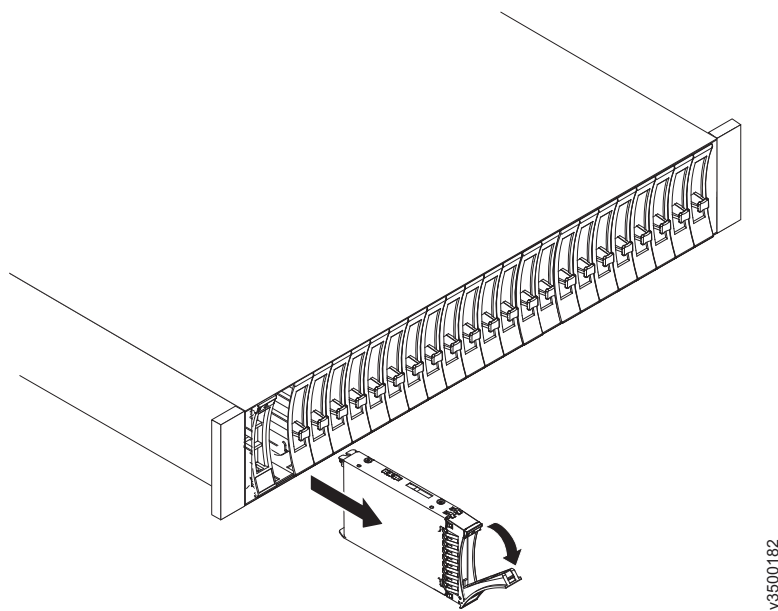

Figure 64. Unlocking and removing a 2.5-inch drive from its slot
5. Pull out the tray handle to the open position (see Figure 64 on page 209).